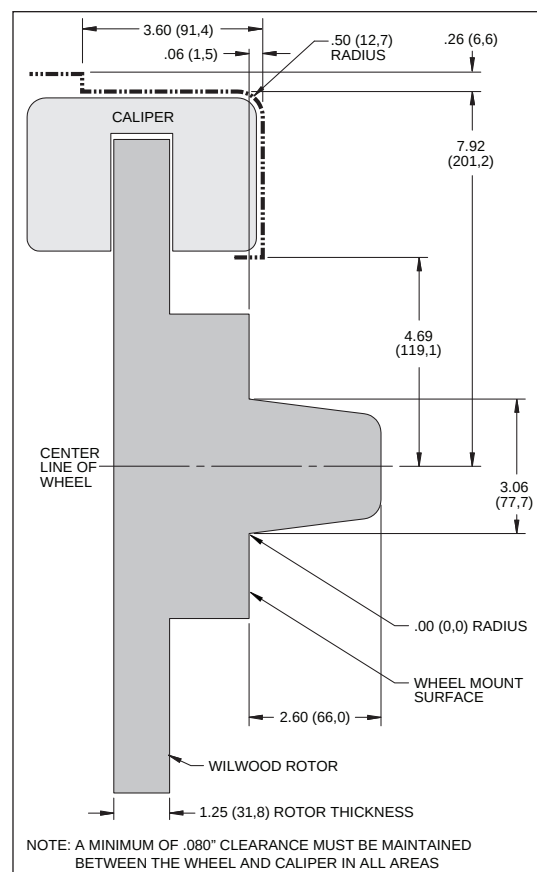

Figure 2. Wheel Clearance Diagram
- Review the wheel clearance diagram (figure 2, page 3) to verify that there is adequate clearance with the wheels you will be using with the installation.
- Make sure this is the correct kit to fit the exact make and model year of your axle. This kit is designed specifically to fit Classic Performance Product Drop Spindle, Wilwood P/N's 830-10764 (CP30106-2), 1963-1970, 830-10765 (CP30106-3) 1971-1972, and 830-0766 (CP30106-4) 1973-1987. Spindles are available to purchase from Wilwood. Please contact our customer service department at (805) 388-1188 for details.
- Verify your wheel clearance using Figure 2.